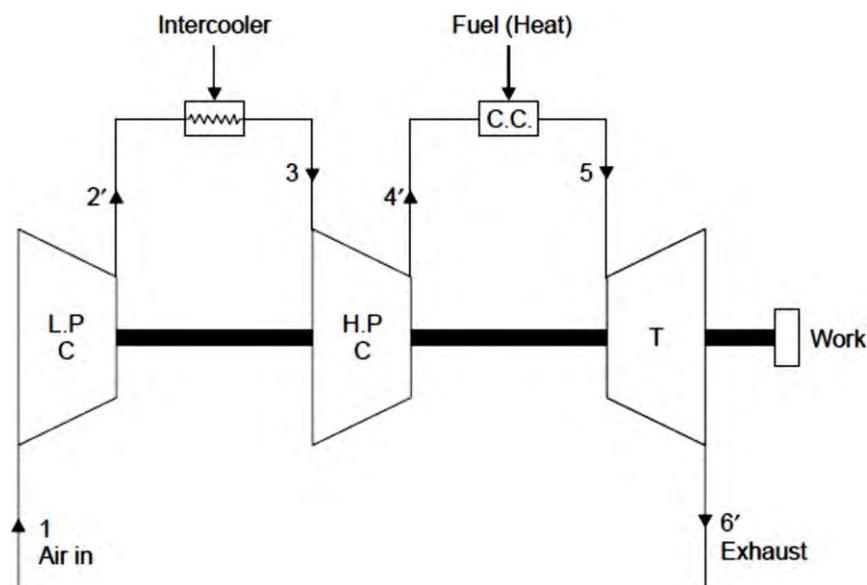

Fig. 7.14 Open cycle gas turbine plant with intercooler
- A compressor in a gas turbine cycle utilizes the major percentage of power developed by the gas turbine. The work required by the compressor can be reduced by compressing the air in two stages and incorporating an intercooler between the two as shown in Fig. 7.14.